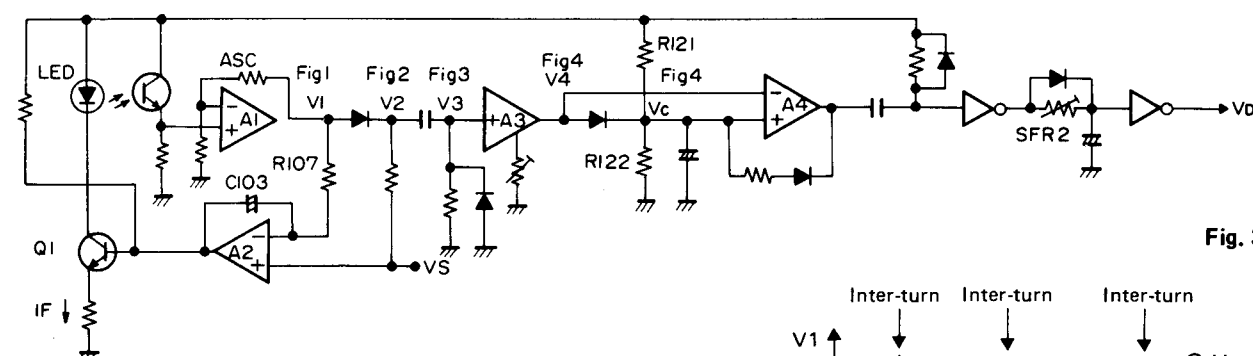

Fig. 3
- 4) By differentiating this, the waveform shown as V_3 in Fig. 3 is obtained.